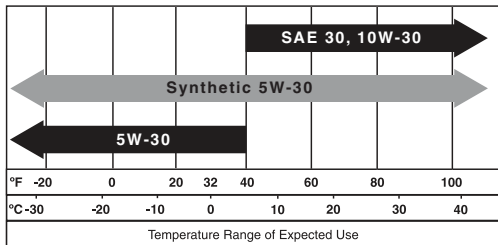

FIGURE 24: Recommended Oil Viscosity
SAE 10W-30 is recommended for general temperature use. Refer to Figure 24 for information on other viscosities that may be used. Other viscosities shown in chart may be used when average temperature in your area is within indicated range.
- Unused engine oil (SAE type indicated in Figure 24)
12. Pour new (unused) engine oil into oil fill hole using funnel. (See Figure 24 for recommended oil type). Do not overfill.